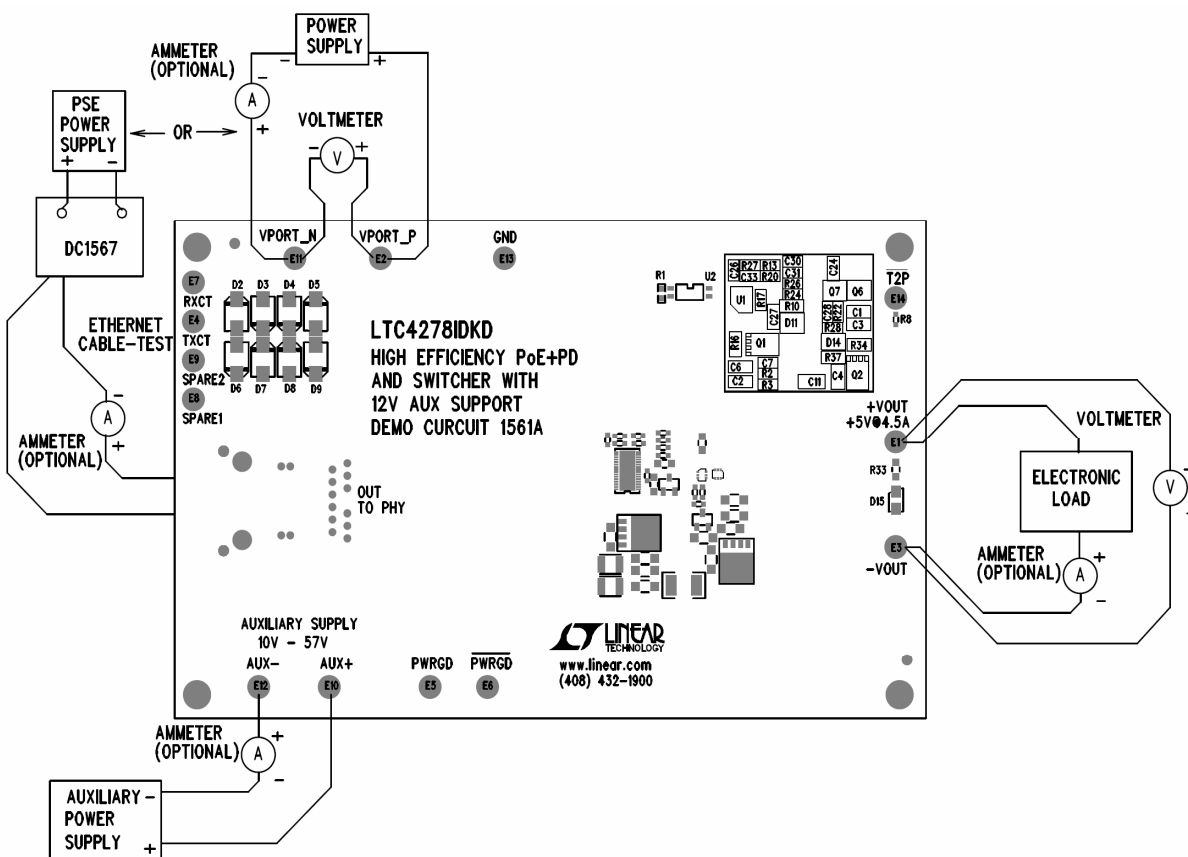

Figure 1. Proper Measurement Equipment Setup
Demonstration circuit 1561A is easy to set up to evaluate the performance of the LTC4278 in a PoE+ PD application. Refer to Figure 1 for proper equipment setup and follow the procedure below:
- a. Connect a PoE+ capable PSE, like the DC1567, with an Ethernet cable to the RJ45 connector, J1. See Figure 1.
- b. Or, connect a 37V to 57V capable power supply (“Power Supply” in Figure 1) across VPORT\_P and VPORT\_N.
power supply across AUX+ to AUX- (“Auxiliary Supply” in Figure 1).